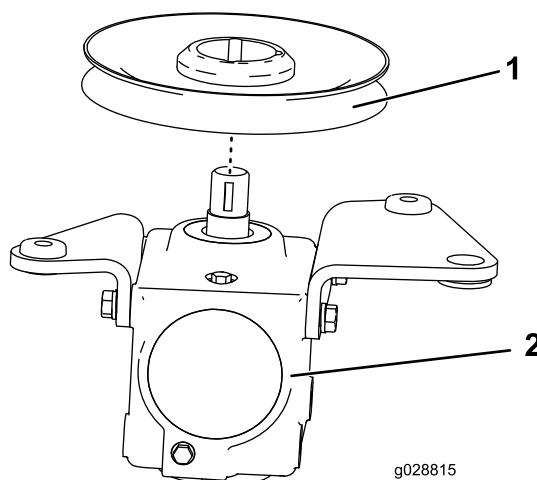

Figure 2
3. Turn the gearbox over, remove the existing pulley, and install the kit pulley (Figure 2).